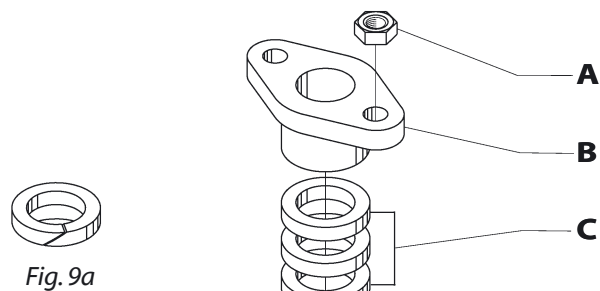

Fig. 9a
1. Remove the key (D) and loosen the gland nuts (A).
2. Remove the gland (B) and add stuffing box rings (C).
**Note! Should the valve has an actuator that cannot be removed, follow these instructions (see Fig. 9a):**